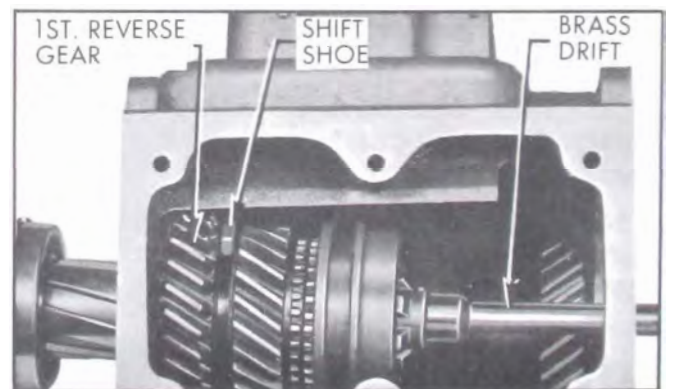

Figure 4-19—Removing Main Shaft
10. Remove main shaft by sliding shaft rearward through rear of case allowing synchronizer assembly, second speed gear, and first-reverse gear to slide off front of shaft. See Figure 4-19.
7. Insert first-reverse shift shoe into first-reverse shift shaft and install main shaft and bearing through rear bearing bore in transmission case. As shaft is being installed: (1) slide first-reverse gear onto splines with groove on gear toward front, (2) slide second speed gear on shaft with extended portion toward front, (3) with rear blocking ring in position, slide synchronizer assembly onto splines with extended portion of synchronizer sleeve toward front. Install main shaft snap ring. See Figure 4-19. Insert second-third shift fork in second-third shift shaft and engage shift fork in groove on synchronizing